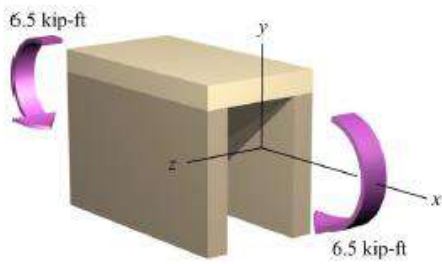

FIGURE P8.6a
5. A beam is subjected to equal 6.5 kip-ft bending moments, as shown in Figure P8.6a. The cross sectional dimensions of the beam are shown in Figure P8.6b. Determine:(a) the centroid location, the moment of inertia about the z axis, and the controlling section modulus about the z axis.(b) the bending stress at point H, which is located 2 in. below the z centroidal axis. State whether the normal stress at H is tension or compression.(c) the maximum bending stress produced in the cross section. State whether the stress is tension or compression.